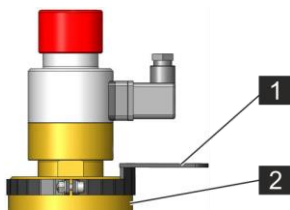

Fig. 98: Removing the clamp
1. ➤ Fasten both halves of the clamp (Fig. 98/1) to the upper collar of the valve (Fig. 98/2) with a torque of 5 ± 0.5 Nm (3.69 ± 0.37 ft-lb).